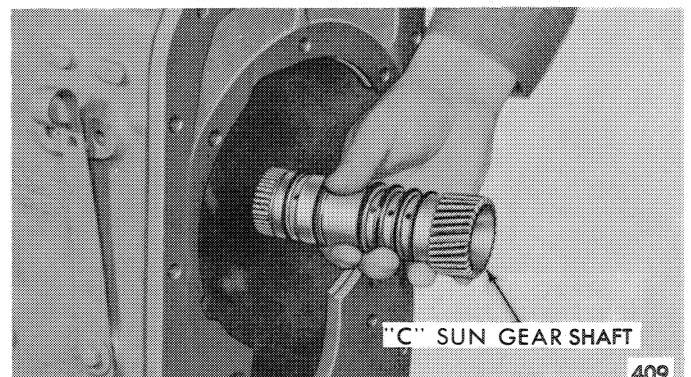

Figure 88—Removing the "C" Sun Gear Shaft
6. Remove the "C" sun gear, as shown in Figure 88.